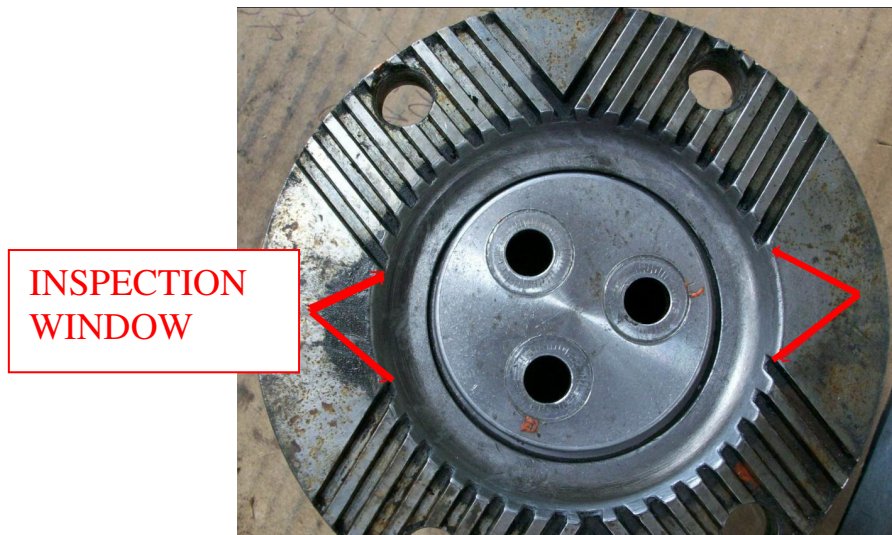

Figure 5: Torque marks.
10. Mark hardware with a torque stripe. Ensure that the torque stripes are positioned so that they are clearly visible for external inspection through the small inspection windows between the cross-tooth flanges of the driveshaft and gearbox output flange. See Figure 5.